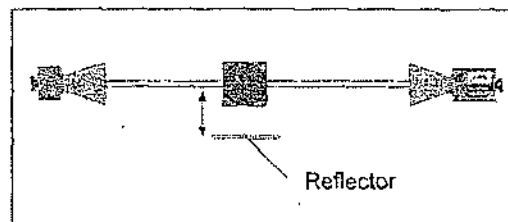

Figure 1.3 Reflections
- ⑥ Set R to between 50 and 90 cm. Move a Reflector, its plane parallel to the axis of the microwave beam, toward and away from the beam axis, as shown in Figure 1.3. Observe the meter readings. Can you explain your observations in steps 5 and 6? Don't worry if you can't; you will have a chance to investigate these phenomena more closely in Experiments 3 and 8, later in this manual. For now just be aware of the following: